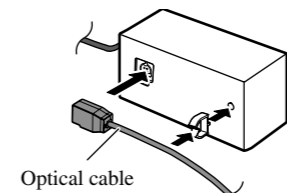

Fig. 7
2. Connect the optical cable to the optical cable connection box. (Fig. 7)